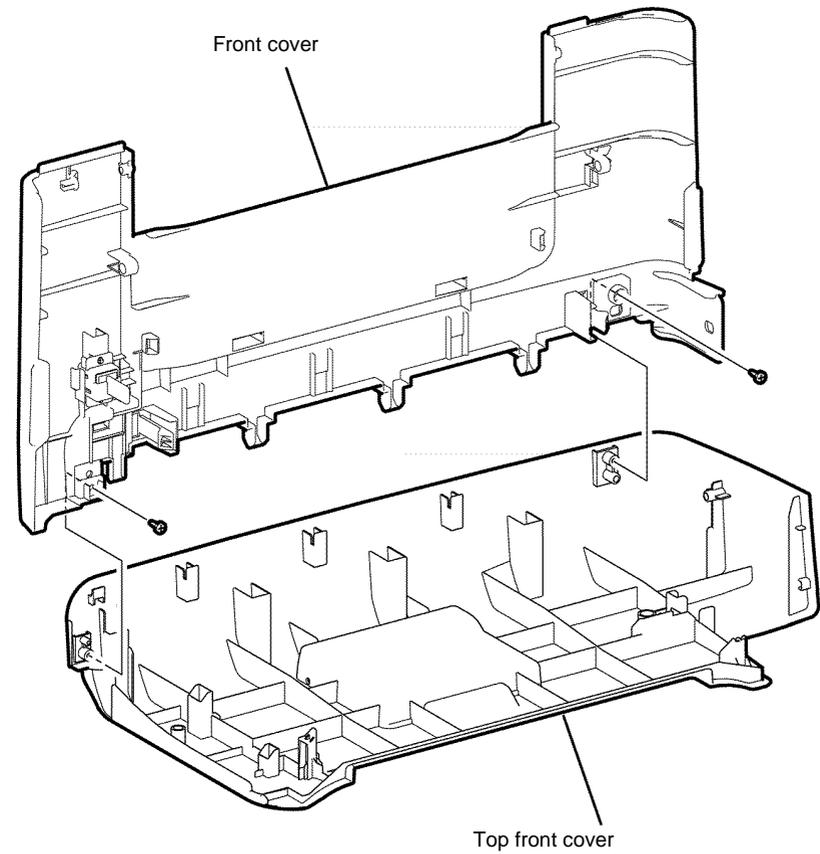

Figure 2 Front cover removal
5. Remove two screws (silver, tapping, 8mm) that fix the front cover to the top front cover, then remove the front cover, by releasing the two bosses, Figure 2.